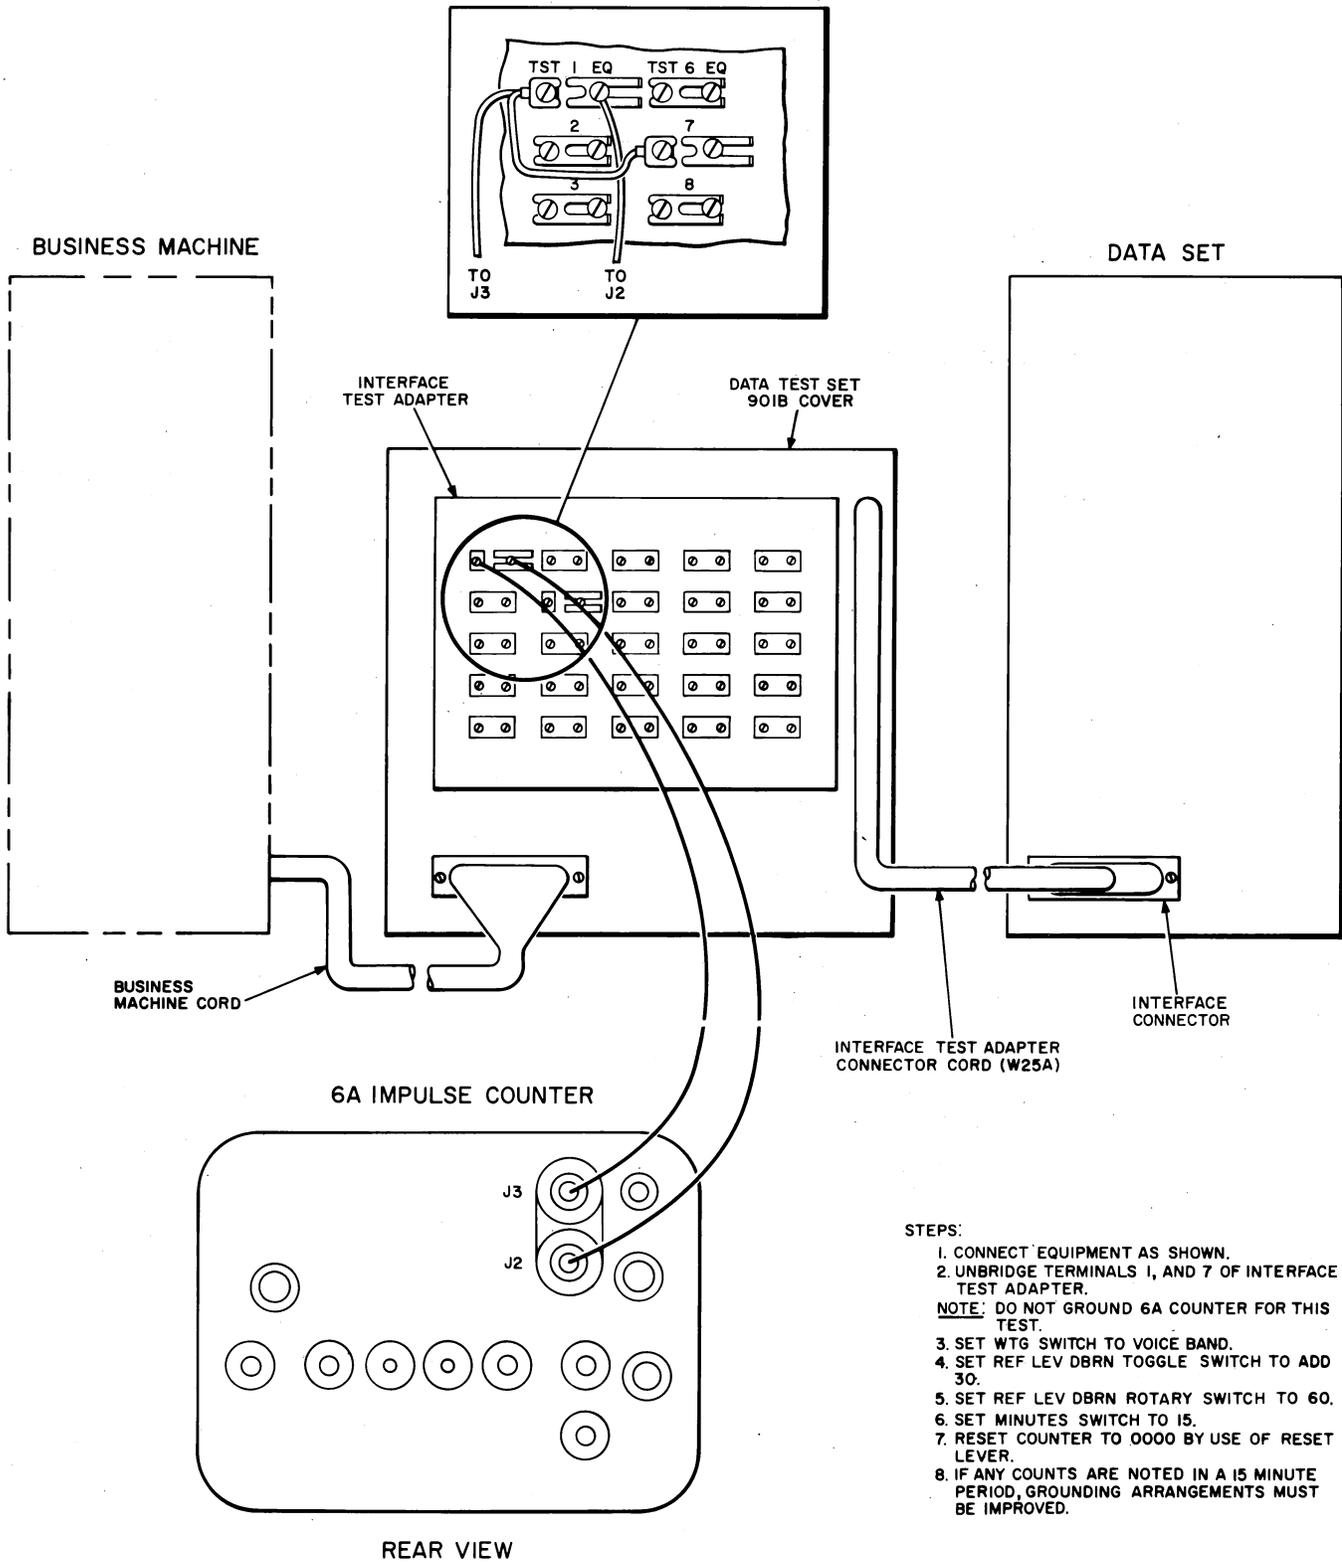

Fig. 1—Interface Test Adapter Connections For Measuring Noise Count
2.04 The 6A impulse counter is connected and the test is performed as shown either in Fig. 1 if the 901B DTS is used or in Fig. 2 if the 914B DTS is used.